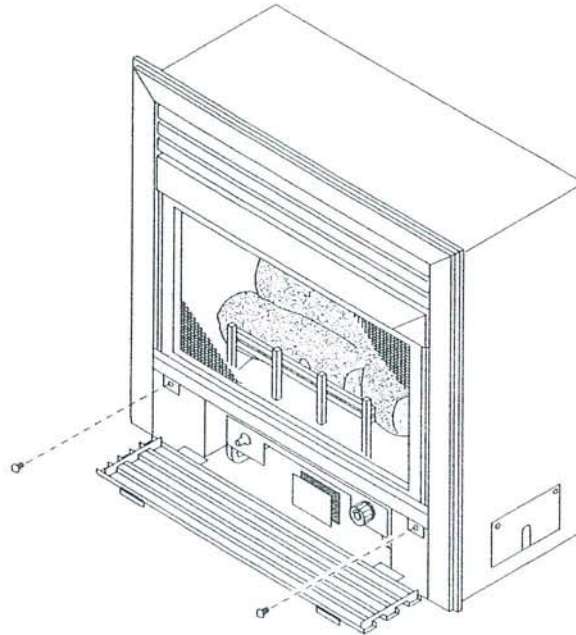

FIGURE 3. Removing Fireplace Screen
Remove fireplace screen by removing two bottom screws on either side and pulling frame clear and down (FIGURE 3).
1. Remove the screen, Figure 3.